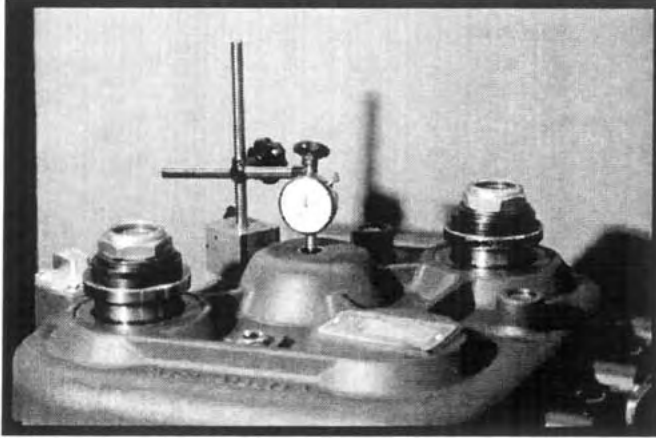

Figure 6.44
25. Install a dial indicator such that its probe is resting against the front of the intermediate shaft through the breather elbow hole. See Figure 6.44.